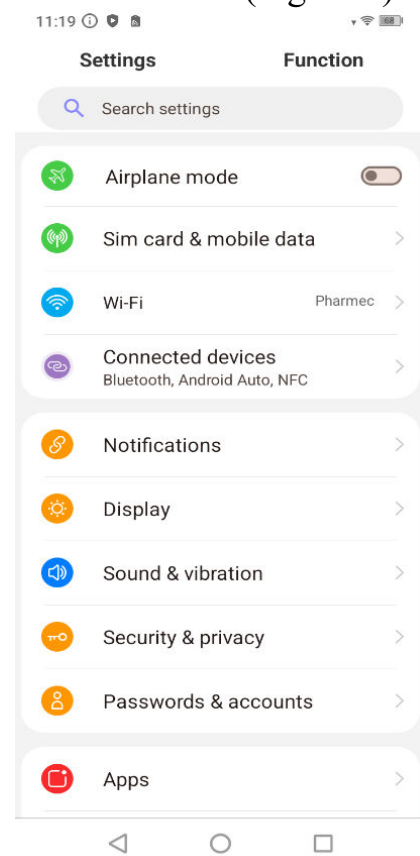

Figure 9 – Settings
4. On the Settings page, type “usb” in the search line (Figure 9).